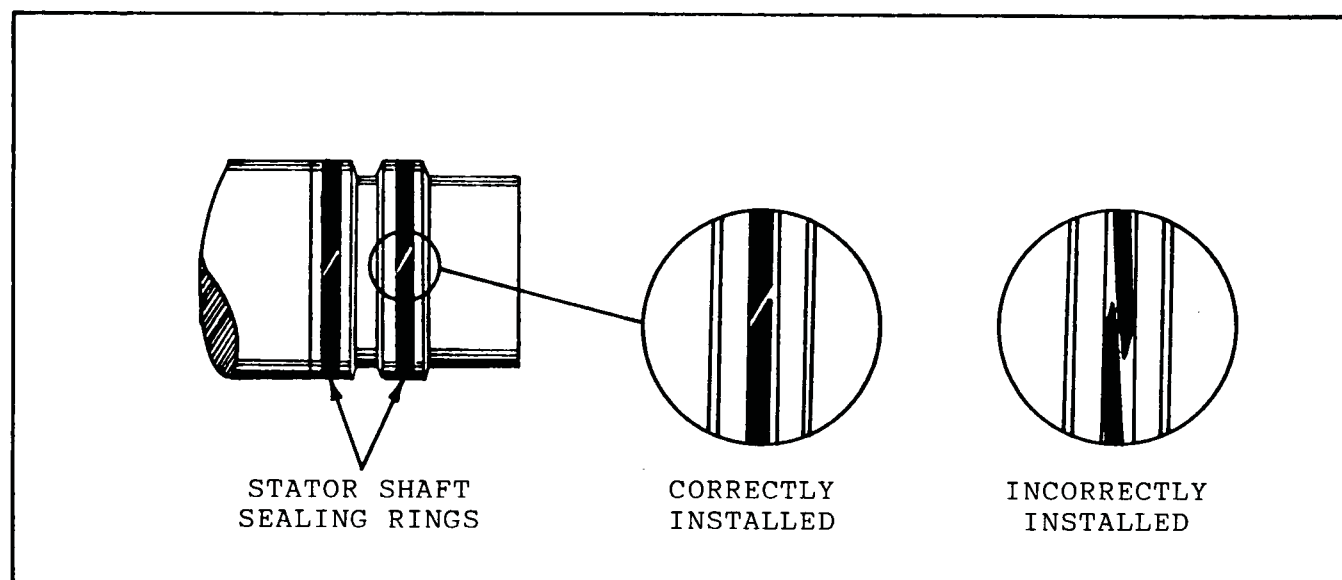

Figure 100
33. Install stator shaft sealing rings as shown in Figure 100. Retain with petrolatum.